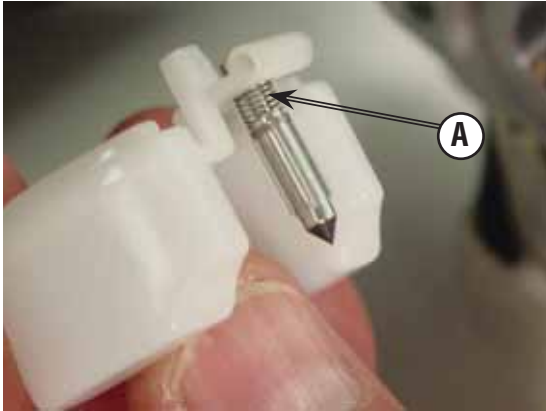

Figure 35
11. Ensure the inlet needle and spring (A) are assembled correctly, with the spring located below the float bosses (Figure 35).